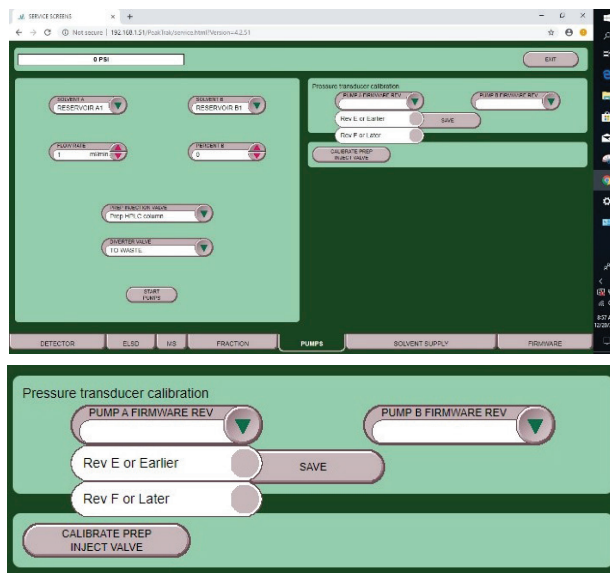

Figure 20: Pump tab of the Service menu
10. Located in the upper right corner of the Pumps tab is the “Pressure transducer calibration” section (Figure 20). Enter in the revision for each of the pump boards. If the revision listed on a pump board label is A-E, then select “**Rev E or Earlier**”. If the revision listed on the pump board label is F-Z, then select “**Rev F or Later**”. Press the **Save** button.